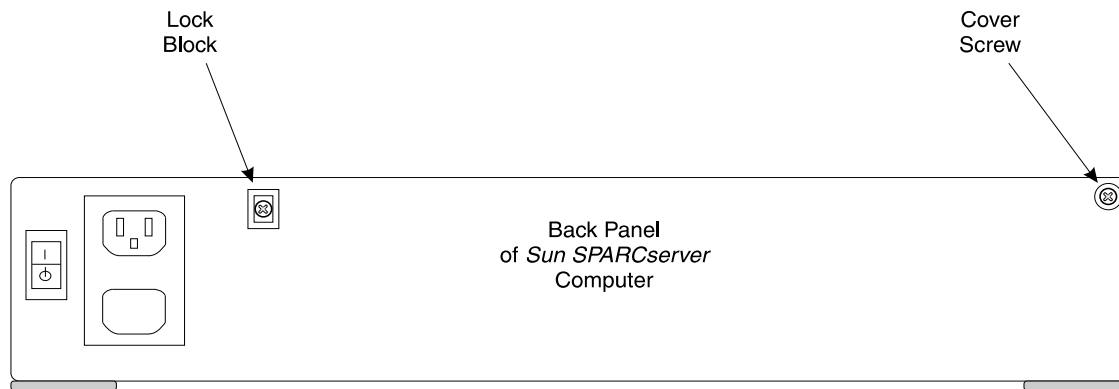

Figure D-1: Rear Panel of a *Sun SPARCserver* Computer
3. Remove the cover screws located on the top right rear of the back panel (see Figure D-1).
4. Find the lock block located towards the top left corner of the back panel (see Figure D-1).